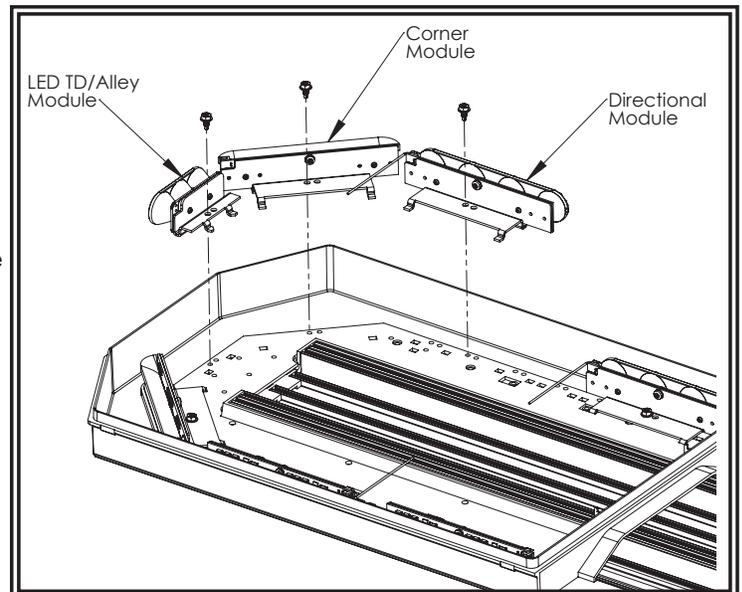

Figure 9
Step 1. Remove screw(s) securing the light head assembly to the mounting plate. See FIGURE 9.